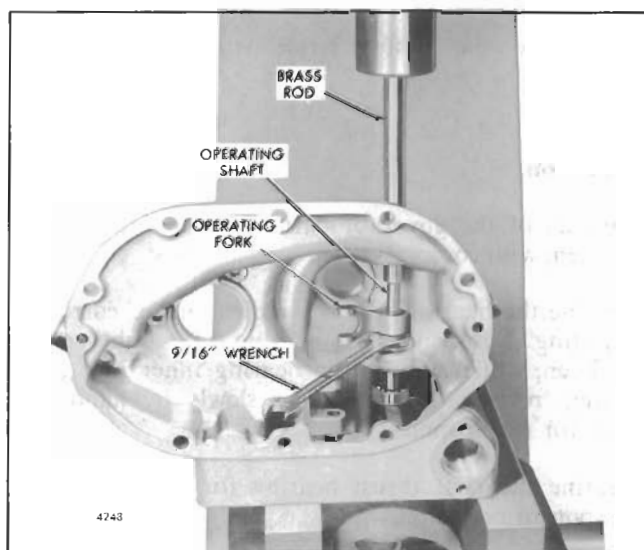

Fig. 14 - Removing Operating Fork, Operating Shaft and Lever Assembly from Governor Housing
- g. With the housing still supported on the bed of the press, place a 9/16" open end wrench under the operating fork as shown in Fig. 14. Place a brass rod on the end of the shaft and press the fork off of the operating shaft. Remove the shaft, operating lever and bearing as an assembly from the housing.